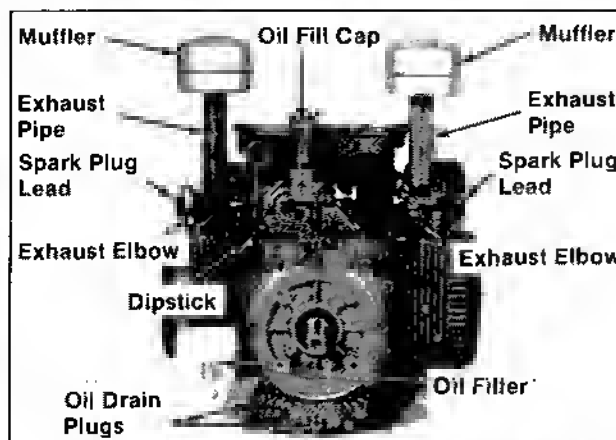

Figure 11-54. Installing Mufflers, Oil Filter, Oil Drain, and Spark Plug Leads.
2. Install the exhaust pipes and mufflers. Refer to Figure 11-54.